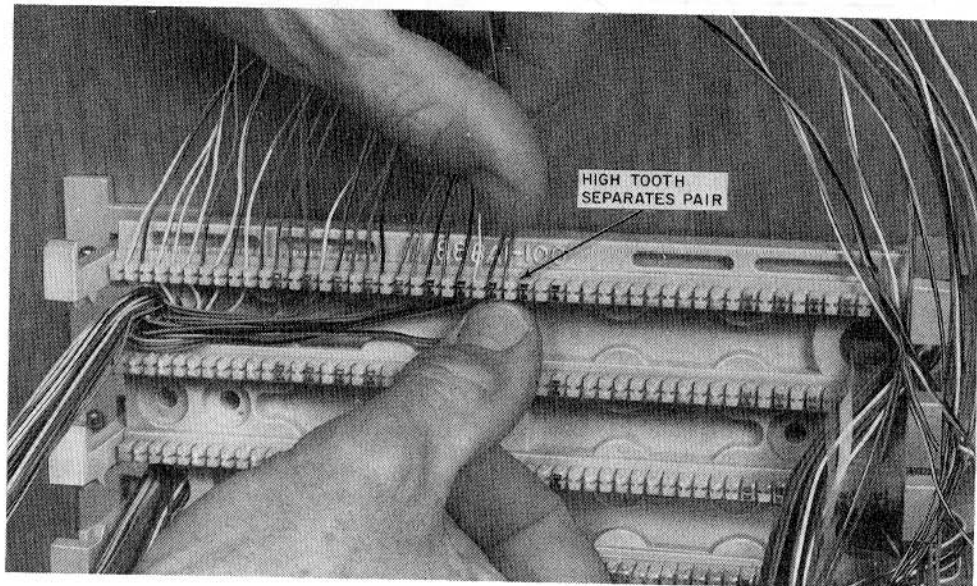

Fig. 17—Placing Conductors in Index Strip
3.11 The conductors of a 25-pair cable or a binder group are placed in the index strip slots following the even-count color code starting with white-blue in slot 1, blue-white in slot 2, white-orange in slot 3, etc (Fig. 17). The conductors should not be taut; some slack is desirable. The high tooth on the index strip splits the conductors of a pair. Light finger pressure is sufficient to cause the conductor to be held in the index strip. Place all 25 pairs and check for split pairs, missed slots, etc.